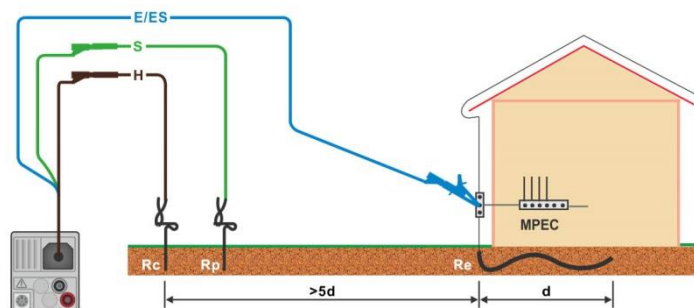
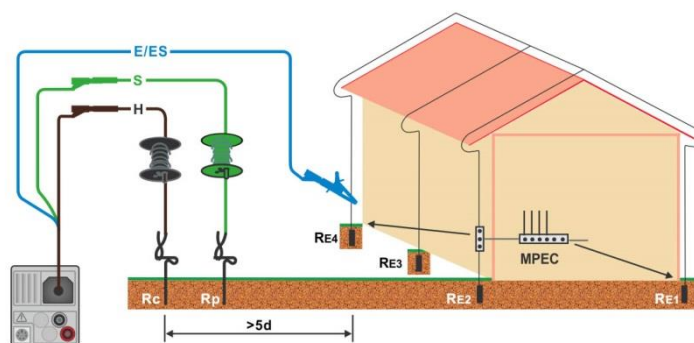

Figure 7.67: Resistance to earth, measurement of main installation earthing
Figure 7.68: Resistance to earth, measurement of a lighting protection system
- › Connect test leads to the object under test, see **Figure 7.67** and **Figure 7.68**.